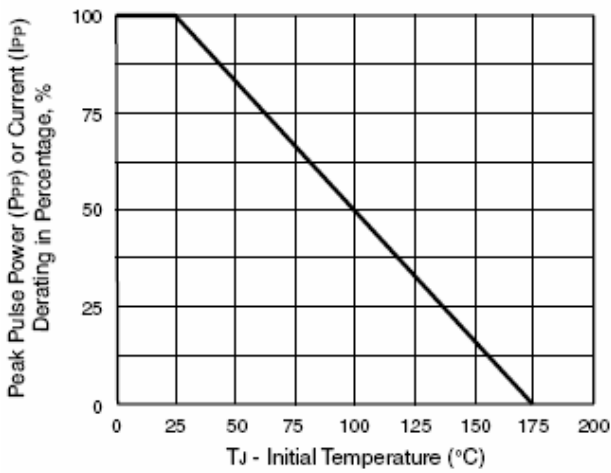
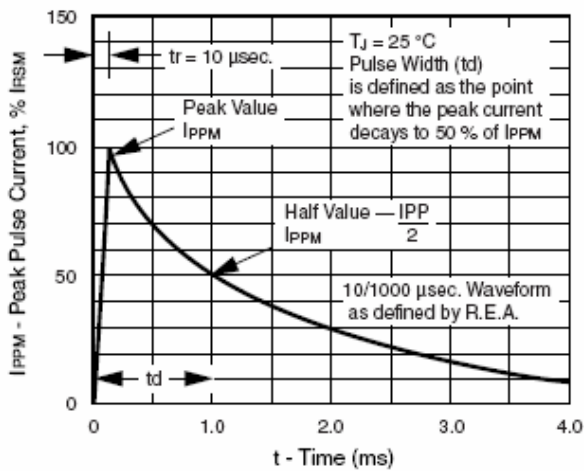

Figure 2. Pulse Power or Current versus Initial Junction Temperature
Figure 3. Pulse Waveform
- (1) Non-repetitive current pulse, per Fig. 3 and derated above $T_A = 25^\circ C$ per Fig. 2
(2) Measured on 8.3 ms single half sine-wave or equivalent square wave, duty cycle = 4 per minute maximum